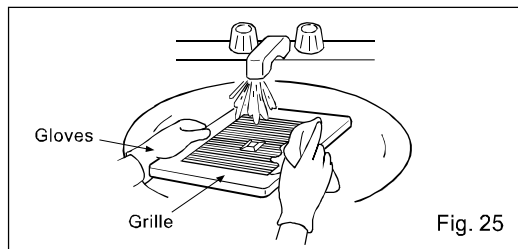

Fig. 25
2. Wash and clean grille. (Use non-abrasive kitchen detergent, wipe dry with new cloth.) (Fig. 25)